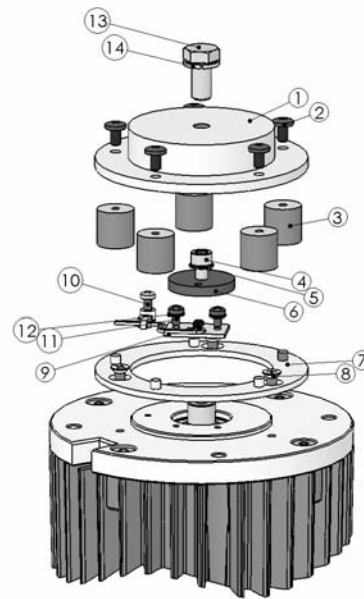

Fig. 22
| See Fig. 22 | | | |
| Fig.22 | 11250204 | Shock Absorbers kit | 1 |
| Fig.22 - ① | | Shock absorbers bottom flange | 1 |
| Fig.22 - ③ | | Shock absorbers Ø 15x15 f-f 55ShA | 5 |
| Fig.22 - ⑥ | | Magnetic disk assy | 1 |
| Fig.22 - ⑦ | | Shock absorbers upper flange | 1 |
| Fig.22 - ⑨ | | Hall effect sensor kit | 1 |
| Fig.22 - ③ | 11250203 | Shock absorbers Ø 15x15 f-f 55ShA (set of 5) | 1 |
| Fig.22 - ⑨ | 11250212 | Hall effect sensor kit | 1 |